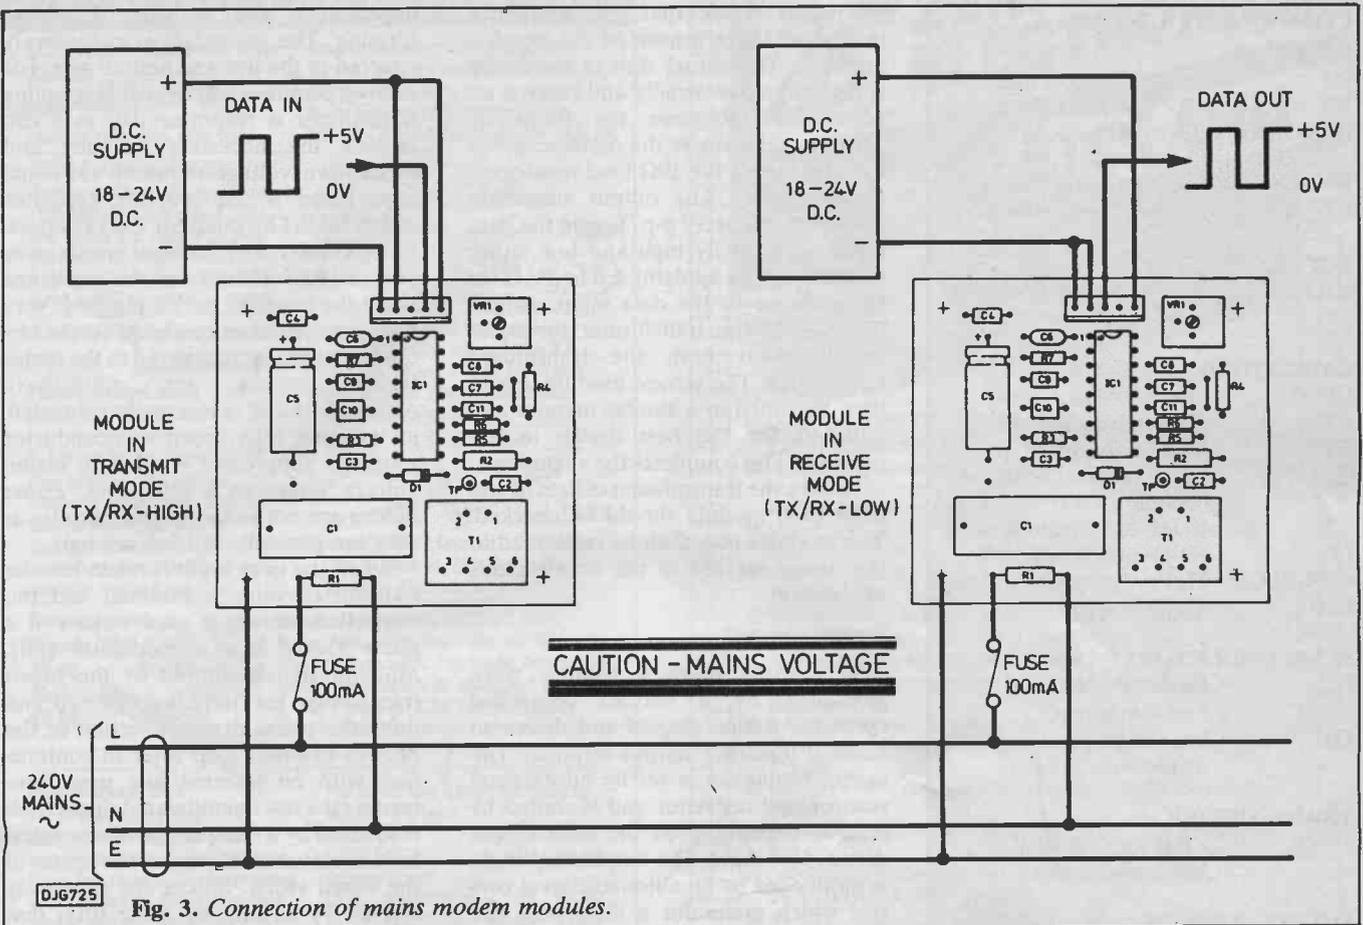

Fig. 3. Connection of mains modem modules.
**WARNING: Mains voltage are lethal.** The secondary of the coupling transformer is connected via a coupling capacitor to the mains. Therefore extreme care should be taken when testing or probing the module whenever it is connected to the mains. The module **MUST** be connected to mains earth and a fuse provided in series with the live lead. (See Fig.3.)